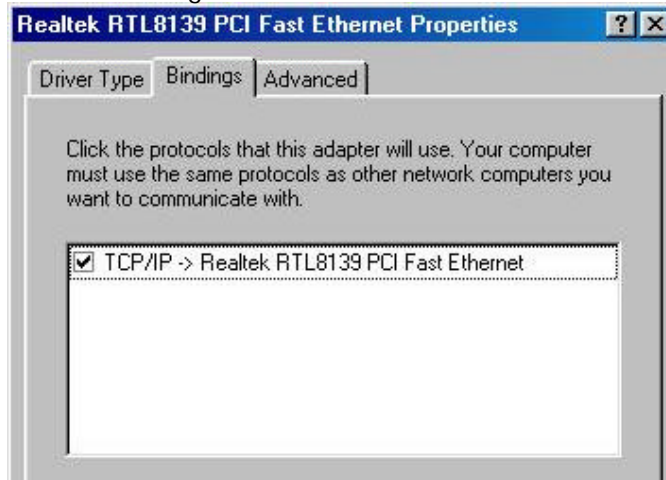

Figure 13.12.3.2
5. Under the Bindings tab, make sure that you have the option checked off which should read TCP/IP as shown in Figure 13.12.3.2.